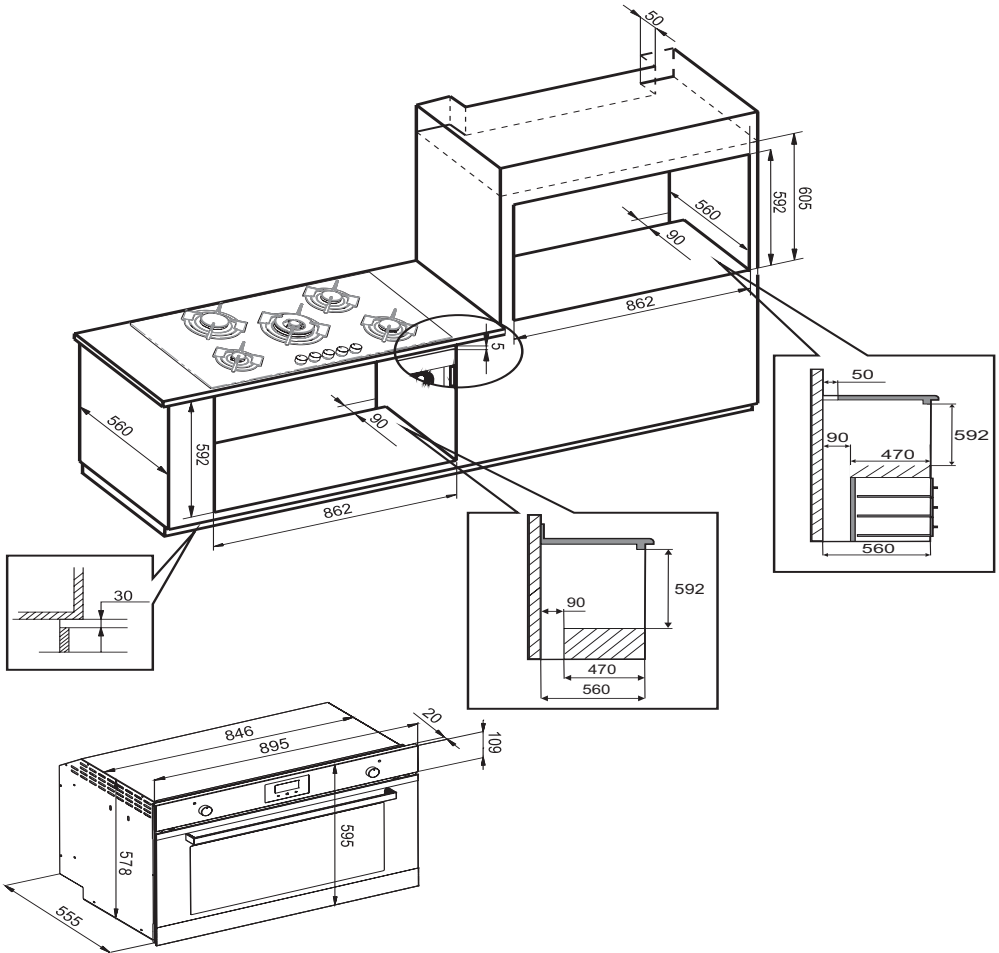

fig. 3
- The dimensions of the housing for the oven are given in figure 3.
- Please install as shown in figure 3
- The oven must be installed as shown in figure 3 in order to provide a more effective air flow.